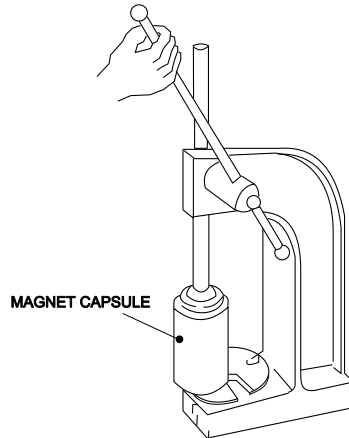

Figure 15
1. Warm the inner magnet assembly (230) in hot water at 194° F (90° C) for approximately 5 minutes. Then using a hand (arbor) press, remove the bushing (237) by pressing the replacement jig from the front end of the inner magnet assembly. [ Fig. 15] (Consult Iwaki America for jig specifications).